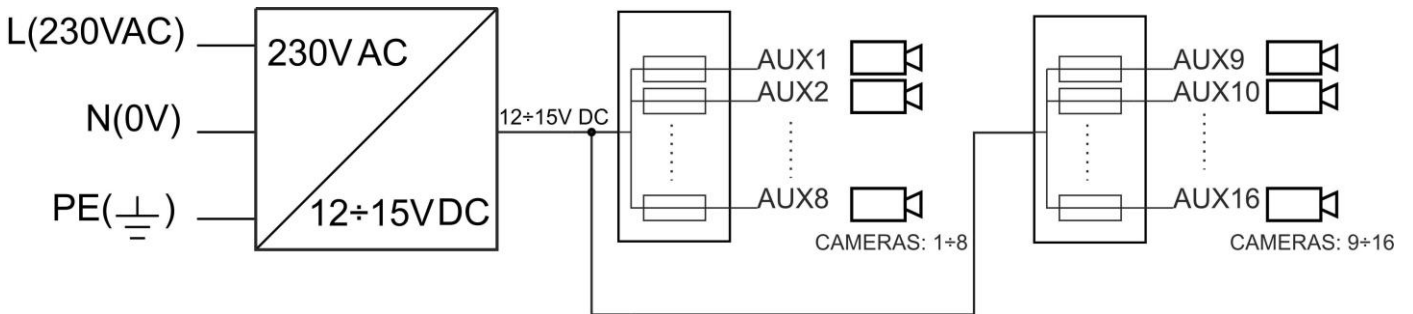

Fig.1. Block diagram of the PSU.
**1.2. Block diagram. (fig.1).**